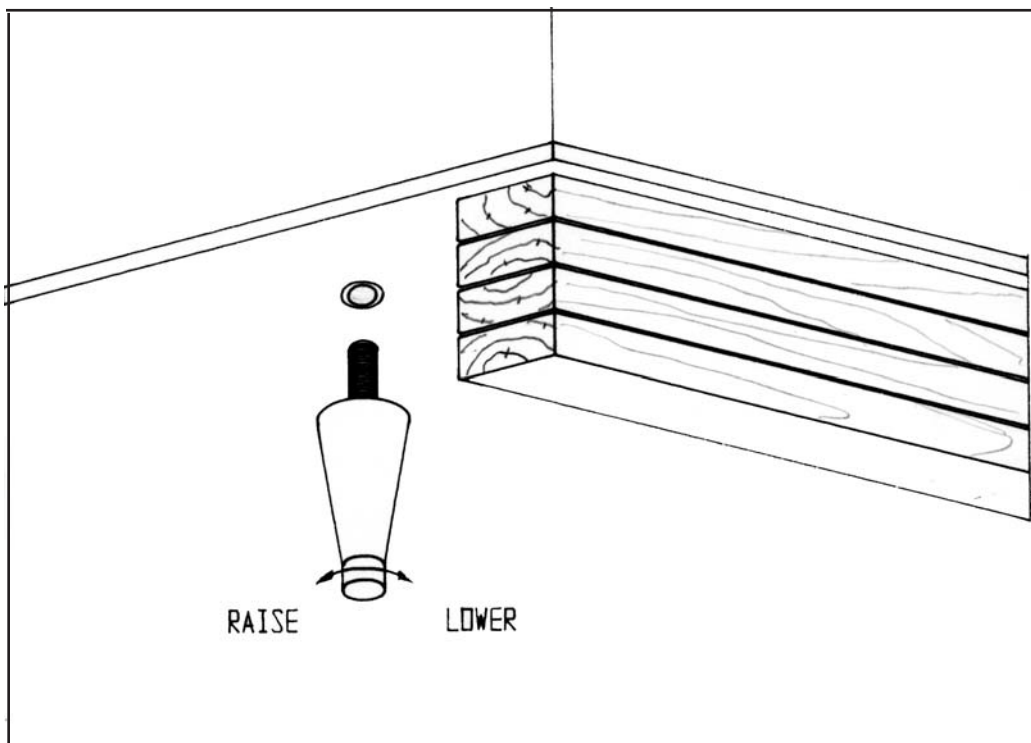

FIGURE 1
If you wish to install the optional legs on your new model, the legs will be supplied with adjustable type bullets for leveling purposes. Each CBC37, CBC50, and CBC64 model has four leg mounting holes on its case bottom, and CBC95 models have six leg mounting holes. Legs are packed in the accessory carton from which they must be removed and installed on the cabinet case bottom (see figure 1). In order to install the legs, carefully tip the cabinet rearward adding four (4) 2" wood blocks underneath and simply screw the threaded leg studs into the case bottom front leg holes. Repeat this procedure by tilting the cabinet in the opposite direction and install the remaining legs.